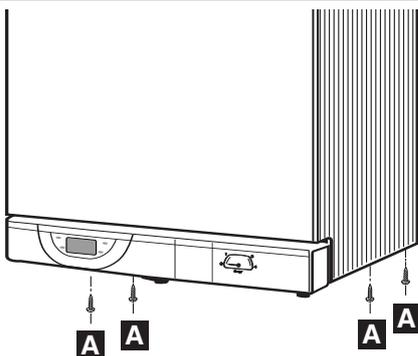

Fig.16
- Tighten the 4 screws located at the bottom as shown in (**Fig. 16**).